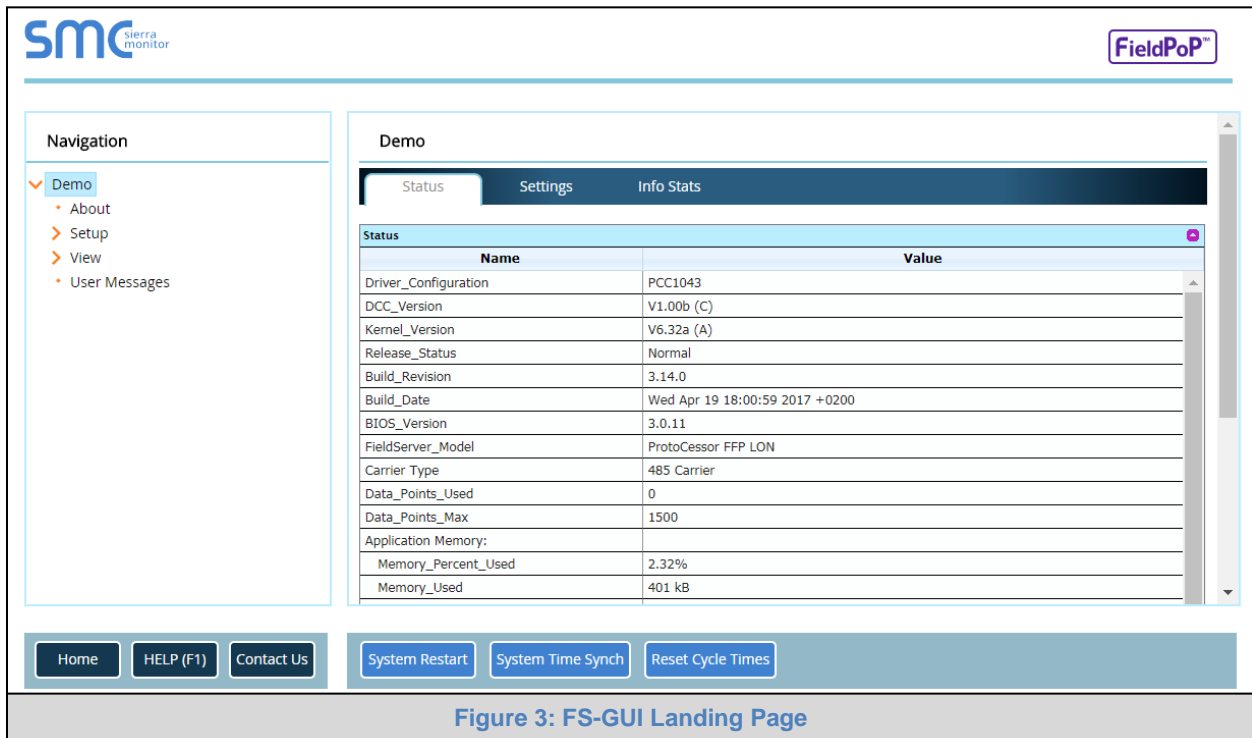

Figure 3: FS-GUI Landing Page
- Figure 3: FS-GUI Landing Page 7
The FieldPoP button (see Figure 3) allows users to connect to the SMC Cloud, Sierra Monitor’s device cloud solution for IIoT. The SMC Cloud creates a secure remote connection to field devices through a FieldServer and its local applications for configuration, management, maintenance. For more information about the SMC Cloud, refer to the SMC Cloud Start-up Guide.